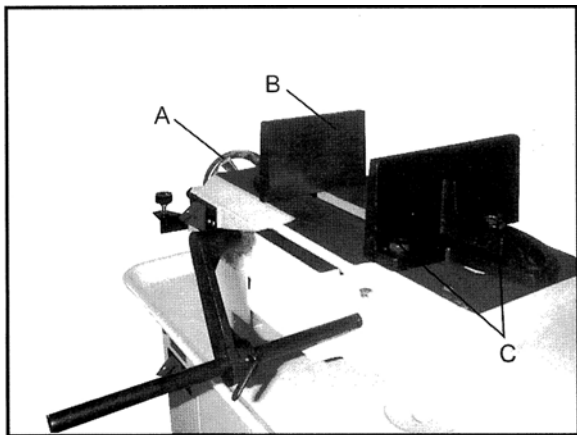

Figure 12
1. Remove bolt and nut assemblies (C, Figure 12).
2. Position the vise and re-install the bolt assemblies as pictured in Figure 12.